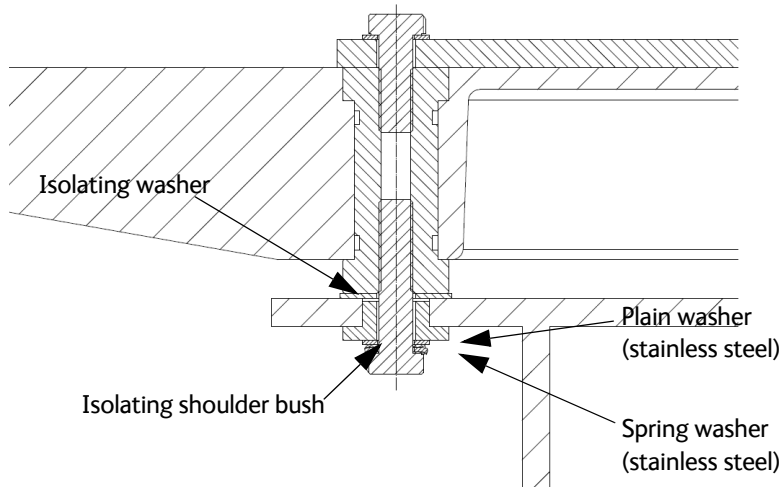

Figure C-7: Isolation of the ADU from the mounting base
4. If the ADU is to be isolated from the mounting base, use shoulder bushings and washer, see figure C-7, *Isolation of the ADU from the mounting base* on page C-10.